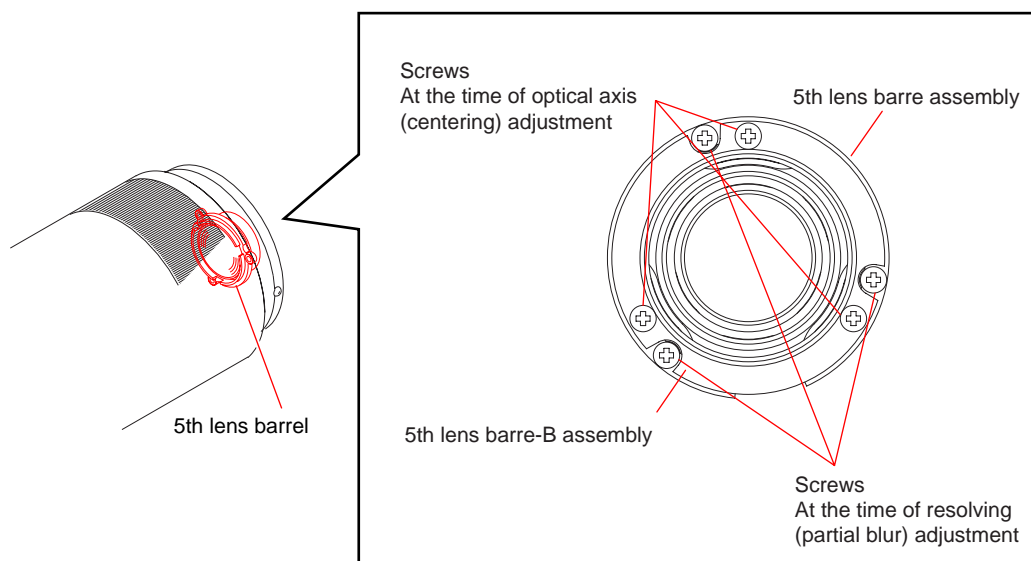

Fig.4-4-5
When the partial blur appears, loosen the three fixing screws of the 5th lens barrel assembly shown in the Fig.4-4-5 and adjust the position to from side to side and up and down.
- 4) If the optical axis aligns the most unsharp, loosen the three screws shown in the Fig.4-4-5 and shift the 5th lens barrel assembly to let the vertical and horizontal.